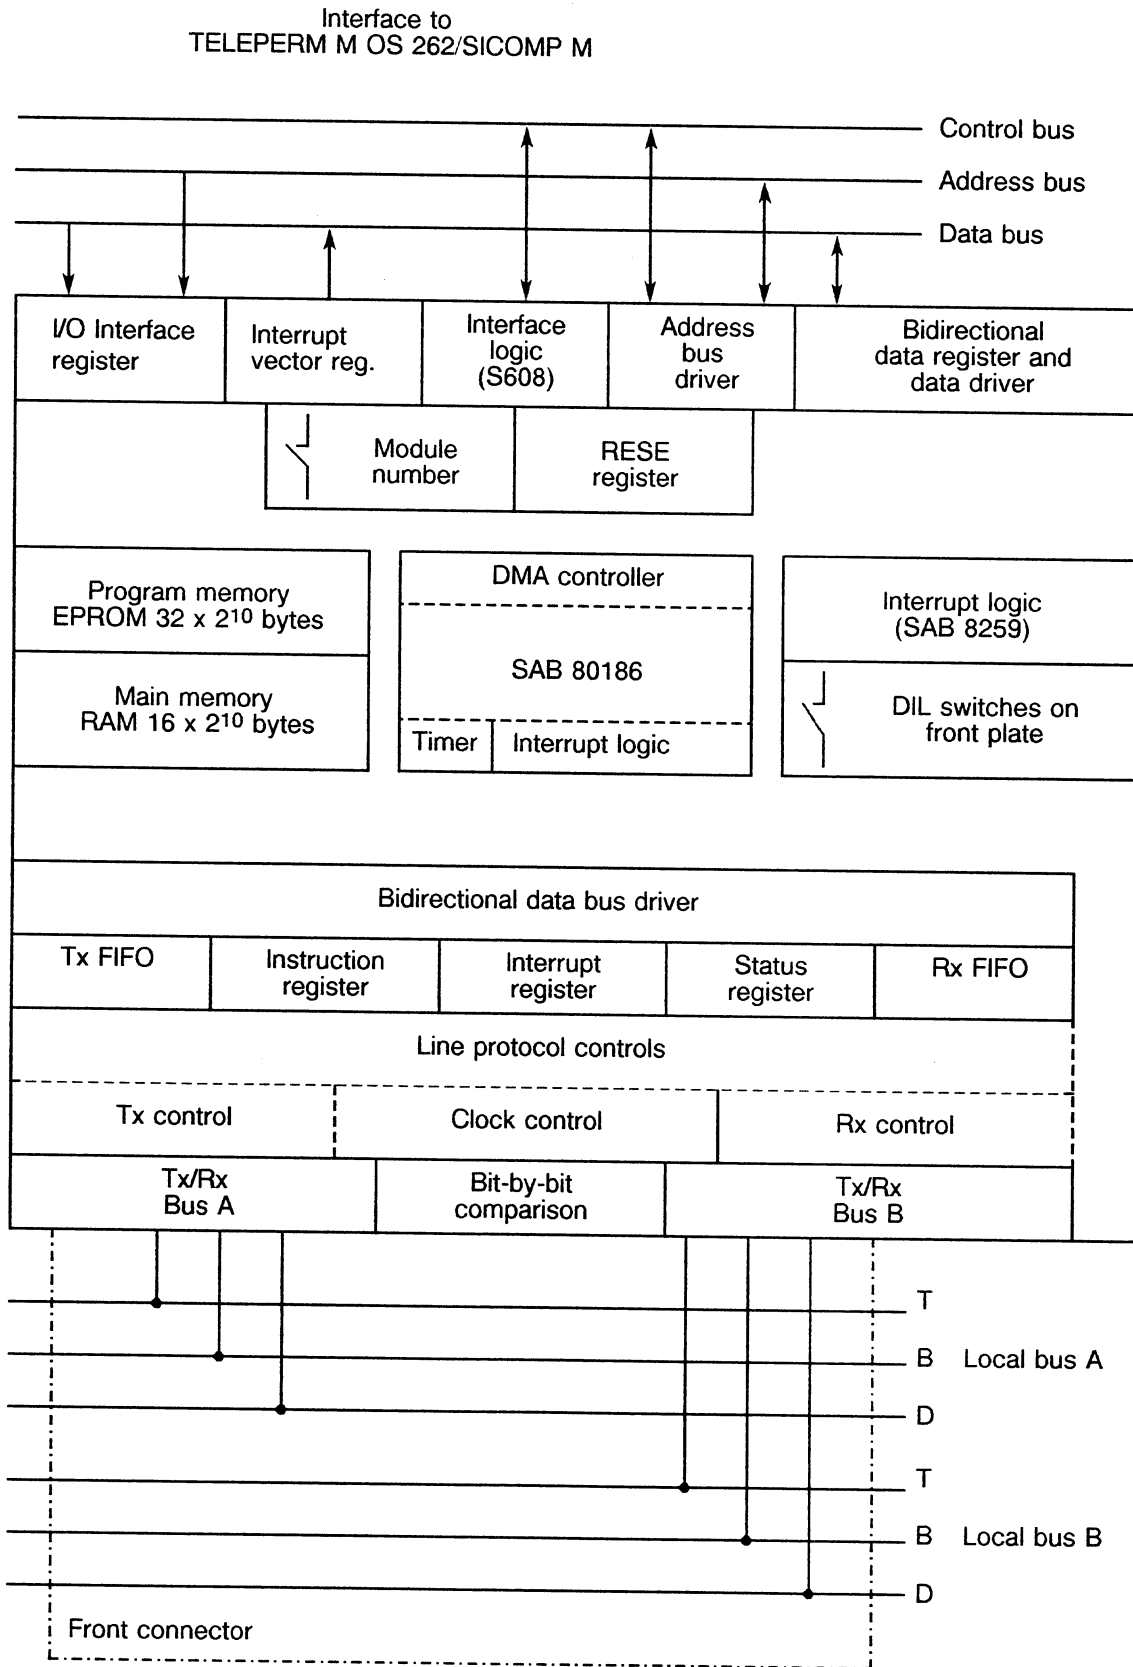

Fig. 2 Mode of operation 6DS1205-8AA
The basic mode of operation is shown in Fig. 2. Data transfer with the central unit takes place in the block mode according to the rules of the SICOMP M system. Parameters are assigned to the N16-M and transfer initiated by central initiative (ZI) using EAS (I/O interface) instructions. Thereafter, the N16-M operates with peripheral initiative (PI).